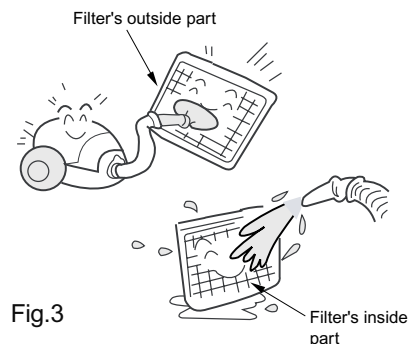

Fig.3
- 2 If the cleaning is carried out with water, the filter's inside part must be oriented towards you (Fig.3).